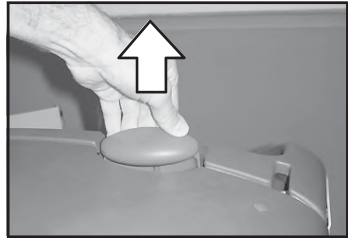

Fig. 13 Dashboard panel
Pull the Emergency Disconnect (Fig. 13, ①).